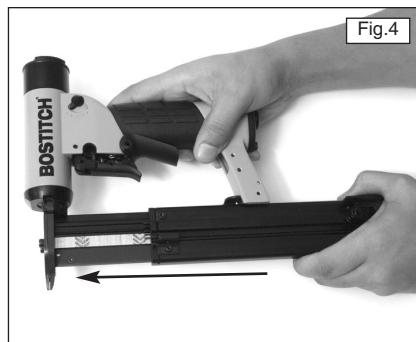

Fig.4
4. Close magazine as shown in Fig.4 until it latches in the forward position. The tool is now ready for use.